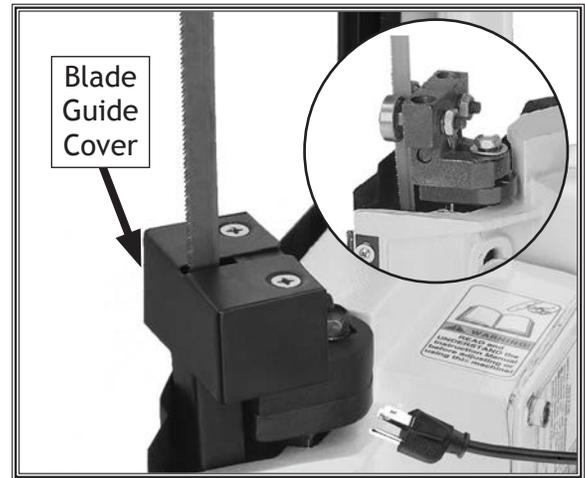

Figure 21. Blade guide cover.
2. Remove the two flat head screws and the blade guide cover shown in **Figure 21**.